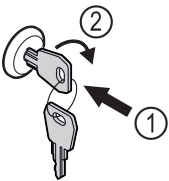

Fig. 171 Example illustration
- ▶ Insert key Fig. 171 (1).
- ▶ Turn key clockwise by 90° Fig. 171 (2).